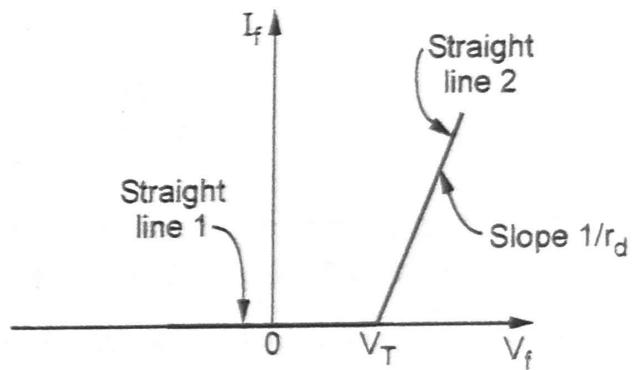

Fig. Q.9.2 Linear piecewise approximation
- Thus the approximation consists of two straight lines, one horizontal and other with slope $(1/r_d)$ as shown in the Fig. Q.9.2 Linear piecewise approximation Fig. Q.9.2.